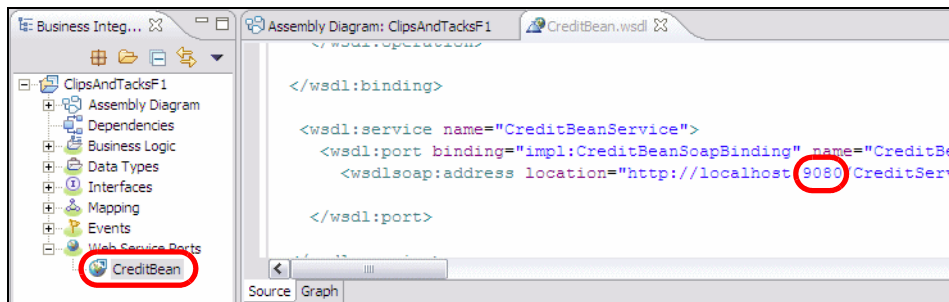

Figure 10-65 Changing the Web service port in the WSDL file
- Change the port from 9080 to your port (Figure 10-65).